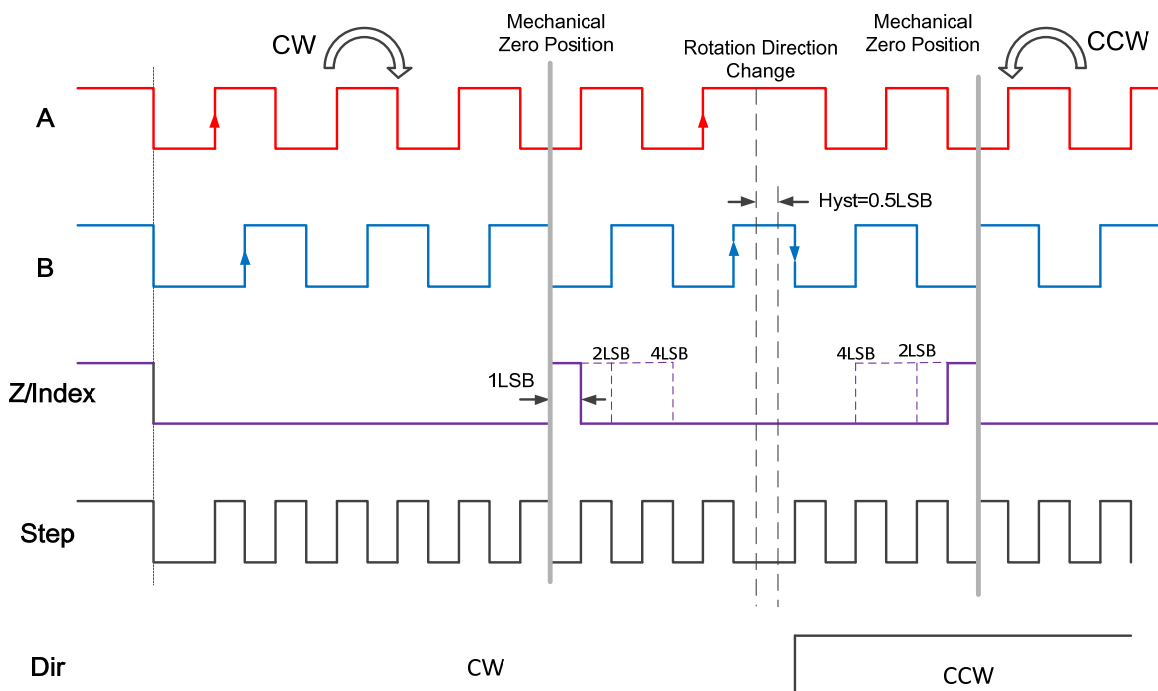

Figure 7: Typical Output Waveform for ABZ and SDI Mode
In this mode, output 'Step' has a pulse width of 1 LSB, output 'Dir' indicates the direction of the magnet rotation; Output Index is the same as output Z in Quadrature A/B mode as shown in Figure 7.
As shown in Figure 7, when the magnet rotates clock-wise (CW), output A leads output B by 1/4 cycle (or 1 LSB); When the magnet rotates counter-clock-wise (CCW), output B leads output A by 1/4 cycle. Output Z indicates the zero position of the magnet and the pulse width of Z is selectable as 1, 2 or 4 LSBs. It is guaranteed that one Z pulse is generated for every rotation. The zero position is user programmable.